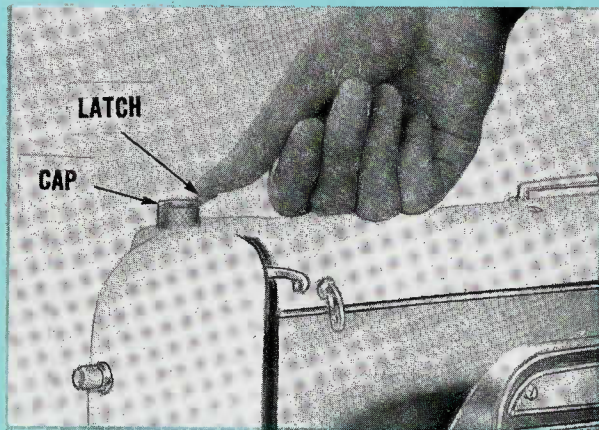

Fig. 18
2. Place one finger on the cap of the automatic darning (Fig. 18).
3. Place another finger on the latch (Fig. 18) and push down, thus raising the automatic darning and